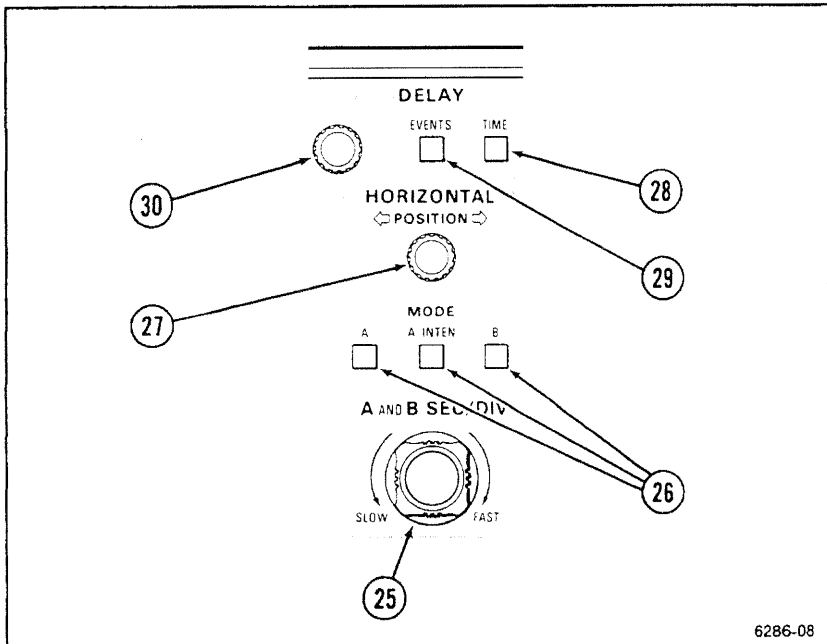

Figure 5-6. Horizontal and delay controls.
Refer to Figure 5-6 for locations of items 25 through 30.